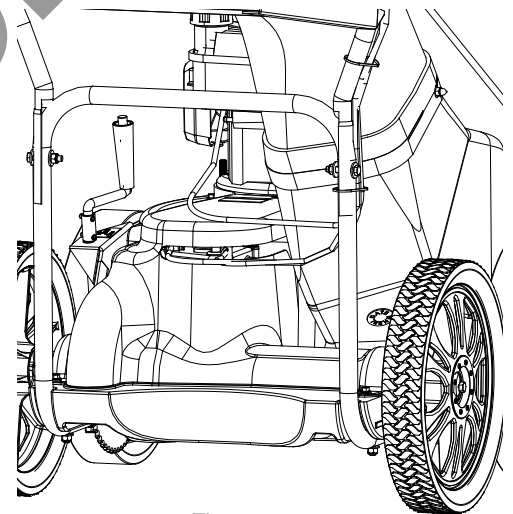

Fig. 1
*NOTE:* Be sure all cables are routed on the underside of the hood and housing. (See Fig. 1)